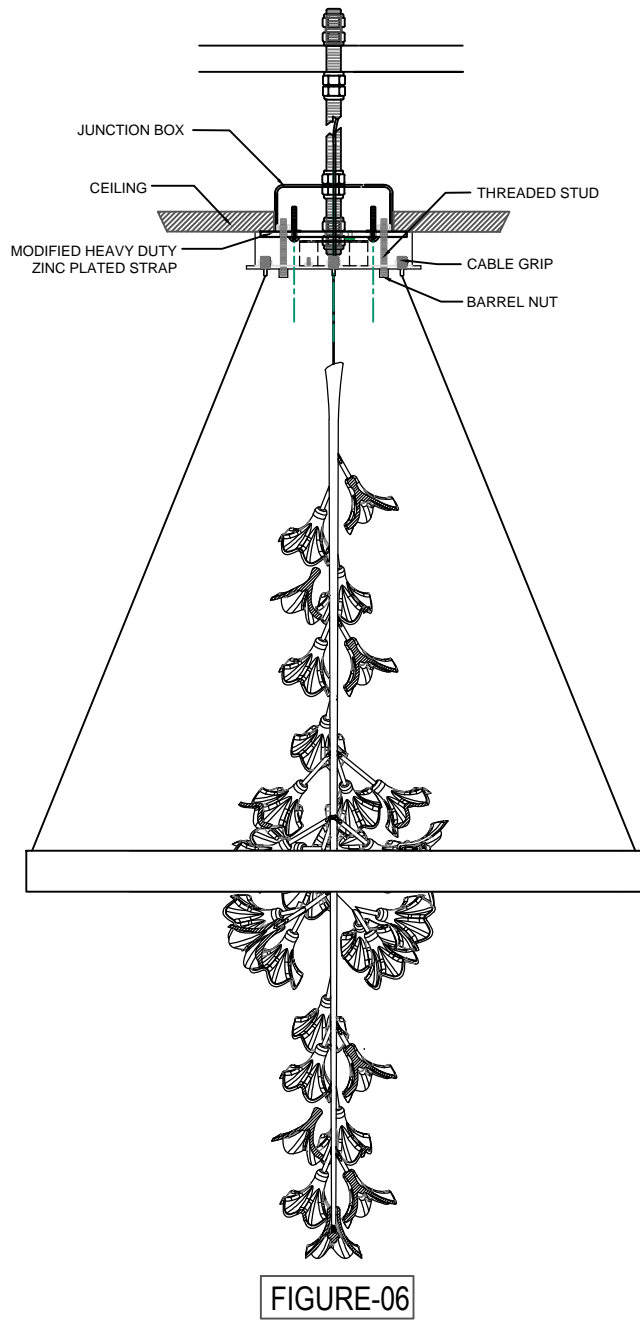

FIGURE-06
12. Attach the fixture to the mounting threaded studs on modified heavy duty zinc plated strap. Secure the canopy with barrel nuts. (See Figure-06)